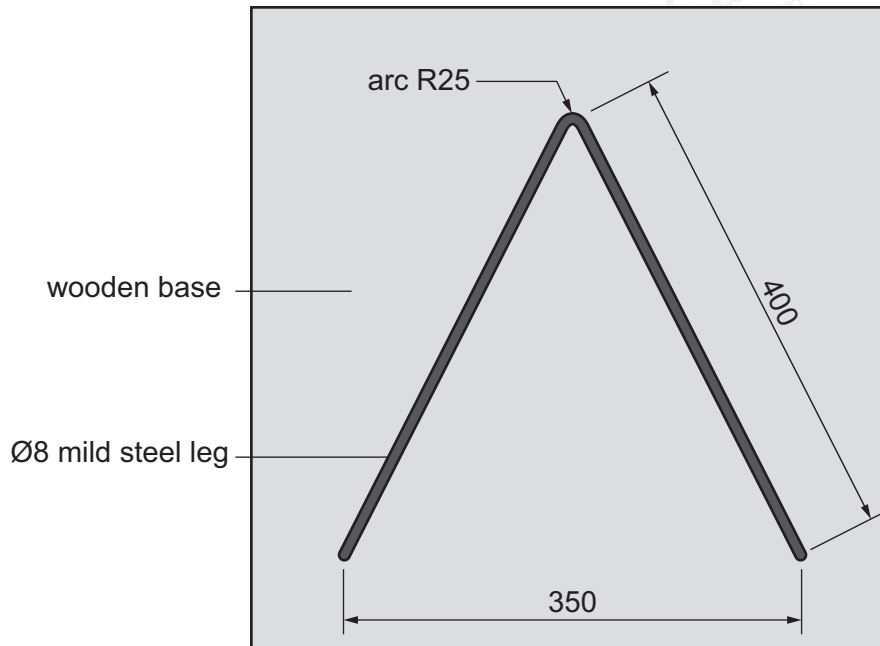

Figure 13.2
- (d) Figure 13.2 shows the leg of the guitar stand in position on a 20 mm thick wooden base after it has been bent to shape.
Draw on Figure 13.2 the positions of **three** metal pins that would have been used when bending the Ø8 mild steel rod to the shape of the leg.